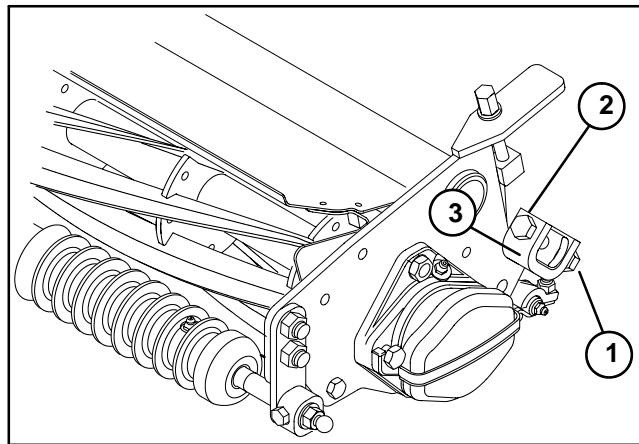

Figure 11
**IMPORTANT:** Use only a 13mm wrench, 3 to 6 inches (7.5 to 15 cm) in length, when adjusting the hex head screws. A longer wrench will provide too much leverage and may cause distortion of the mounting plate (Fig. 11).
3. Position cutting unit with the front roller up (Fig. 11).
4. After adjusting bedknife to reel, make sure that both top and bottom adjusting screws are secured against the bedbar tabs on each end of the cutting unit (Fig. 11).